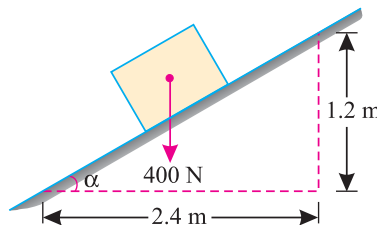

Fig. 8.10.
**Example 8.6.** An inclined plane as shown in Fig. 8.10. is used to unload slowly a body weighing 400 N from a truck 1.2 m high into the ground.